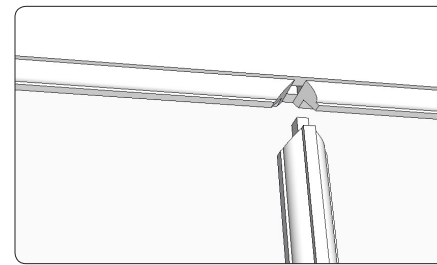

Figure 68. Insert the muntin into the top rail. The mitered sections should be a good, tight fit.
Step 8 Use the Move/Copy Tool to latch onto a corner of the muntin that corresponds with a matching corner in the top rail socket. Insert the muntin into the top rail socket, and click when the matching corners connect (Figure 68).